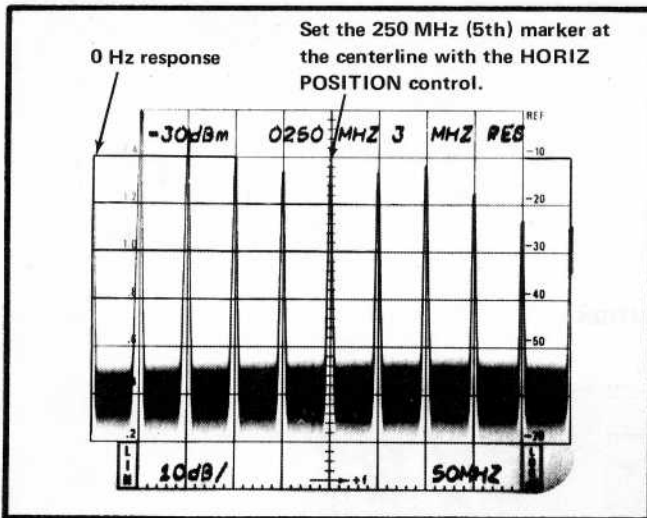

Fig. 2-3. Calibrating the sweep span.
c. With the CAL OUT signal applied to the RF Input, decrease the FREQ SPAN/DIV to 50 MHz and tune the 5th marker (250 MHz) to the center graticule line (see Fig. 2-3).
d. Calibrate the frequency span to 50 MHz/DIV by adjusting the SWP CAL for 1 marker/division. It may be necessary to keep the 250 MHz marker centered with the frequency TUNING control as the sweep is calibrated. Final display should resemble that illustrated in Fig. 2-3.